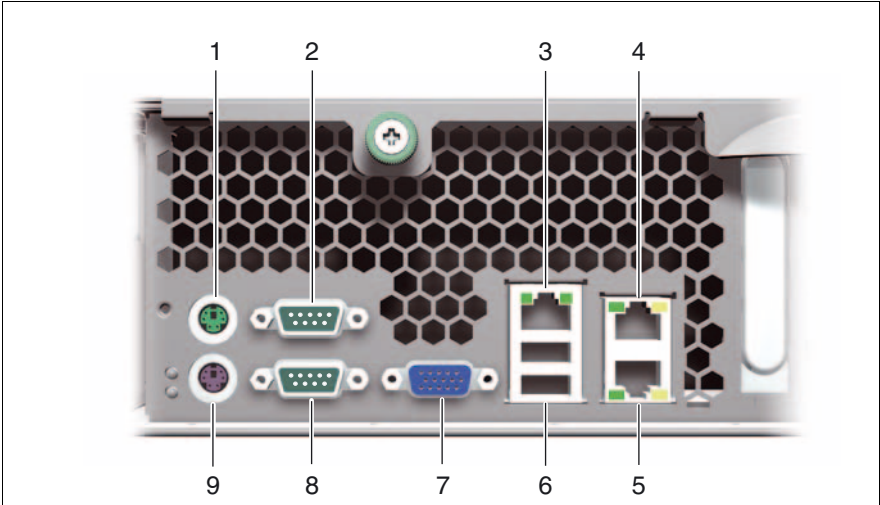

Figure 8: Ports on the rear
The standard ports (figure 8) are marked with symbols, and some are color-coded:
- Connect the monitor, keyboard and mouse to the standard ports of the server (see table and figure 8 on page 45).